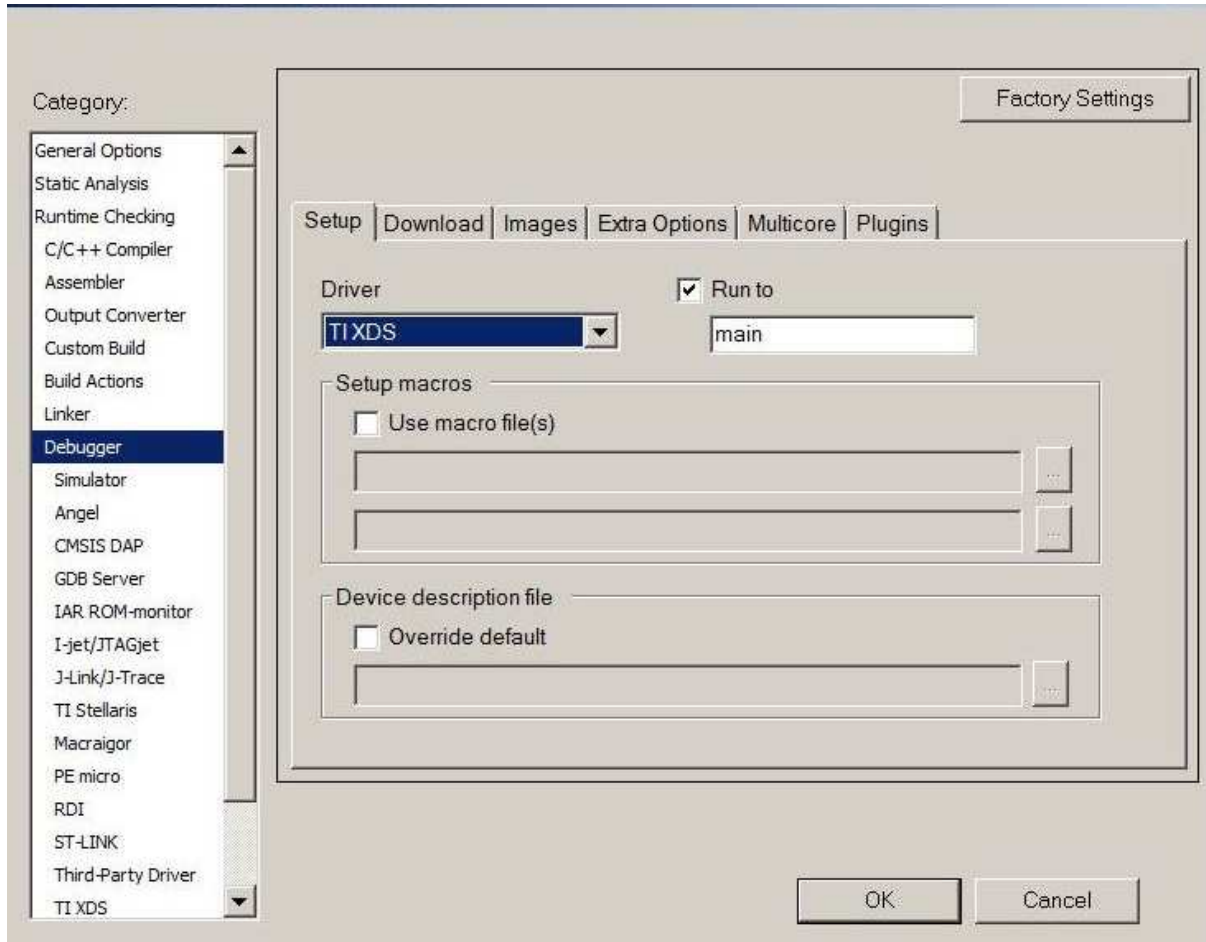

Figure 30. IAR TI XDS Debugger
1. Select Project → options from the menu, and select the Debugger category. In the Setup tab, choose TI XDS as the driver and click OK (see Figure 30).